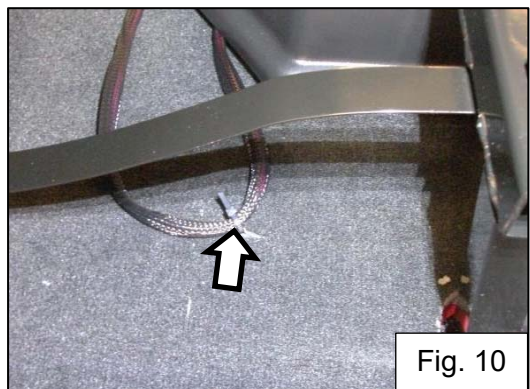

Fig. 10
16. Slide one of the supplied wire ties under the loop of carpet created in the previous step and secure the harness to the carpet loop. Fig. 10